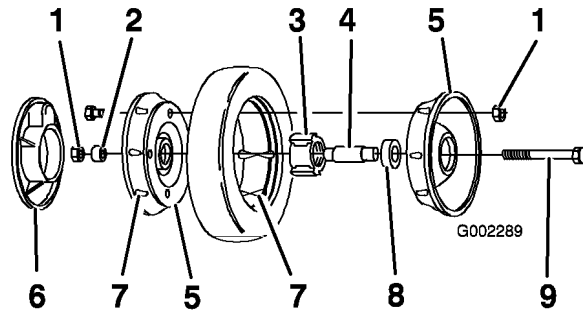

Figure 29
- Remove the bolt, the wheel spacer, and the locknut mounting the wheel to the pivot arm (Figure 29).
- Separate the wheel halves from the tire by removing 4 cap screws and 4 locknuts (Figure 29).
Note: If you remove the bearings from the bearing/hub assembly, remove them by pressing on the bearing spacer (Figure 29).
- Position the tire onto one wheel half, aligning the lugs on each (Figure 29).
- Place the bearing/hub assembly into the center hole of the wheel half. Ensure that the legs of the hub are positioned over the flange of the hole (Figure 29).
- Place the other wheel half onto the bearing/hub assembly, aligning the wheel and the tire lugs and the mounting holes (Figure 29).
- Using 2 fully threaded screws or bolts (1/4-20 x 1.50 inch) and non-locking nuts, loosely secure the wheel halves together. Mount the screws or bolts in the opposing holes (Figure 29).
- Check the alignment of all parts and tighten the screws, alternating from side to side for a uniform fit, until the wheel halves are drawn together (Figure 29).
- Install the 2 bolts and 2 locknuts previously removed in the remaining holes in the wheel halves and tighten. Remove the 2 long screws or bolts and replace them with 2 bolts and 2 locknuts (Figure 29).
spacer is positioned between the wheel hub and the pivot arm (Figure 29).